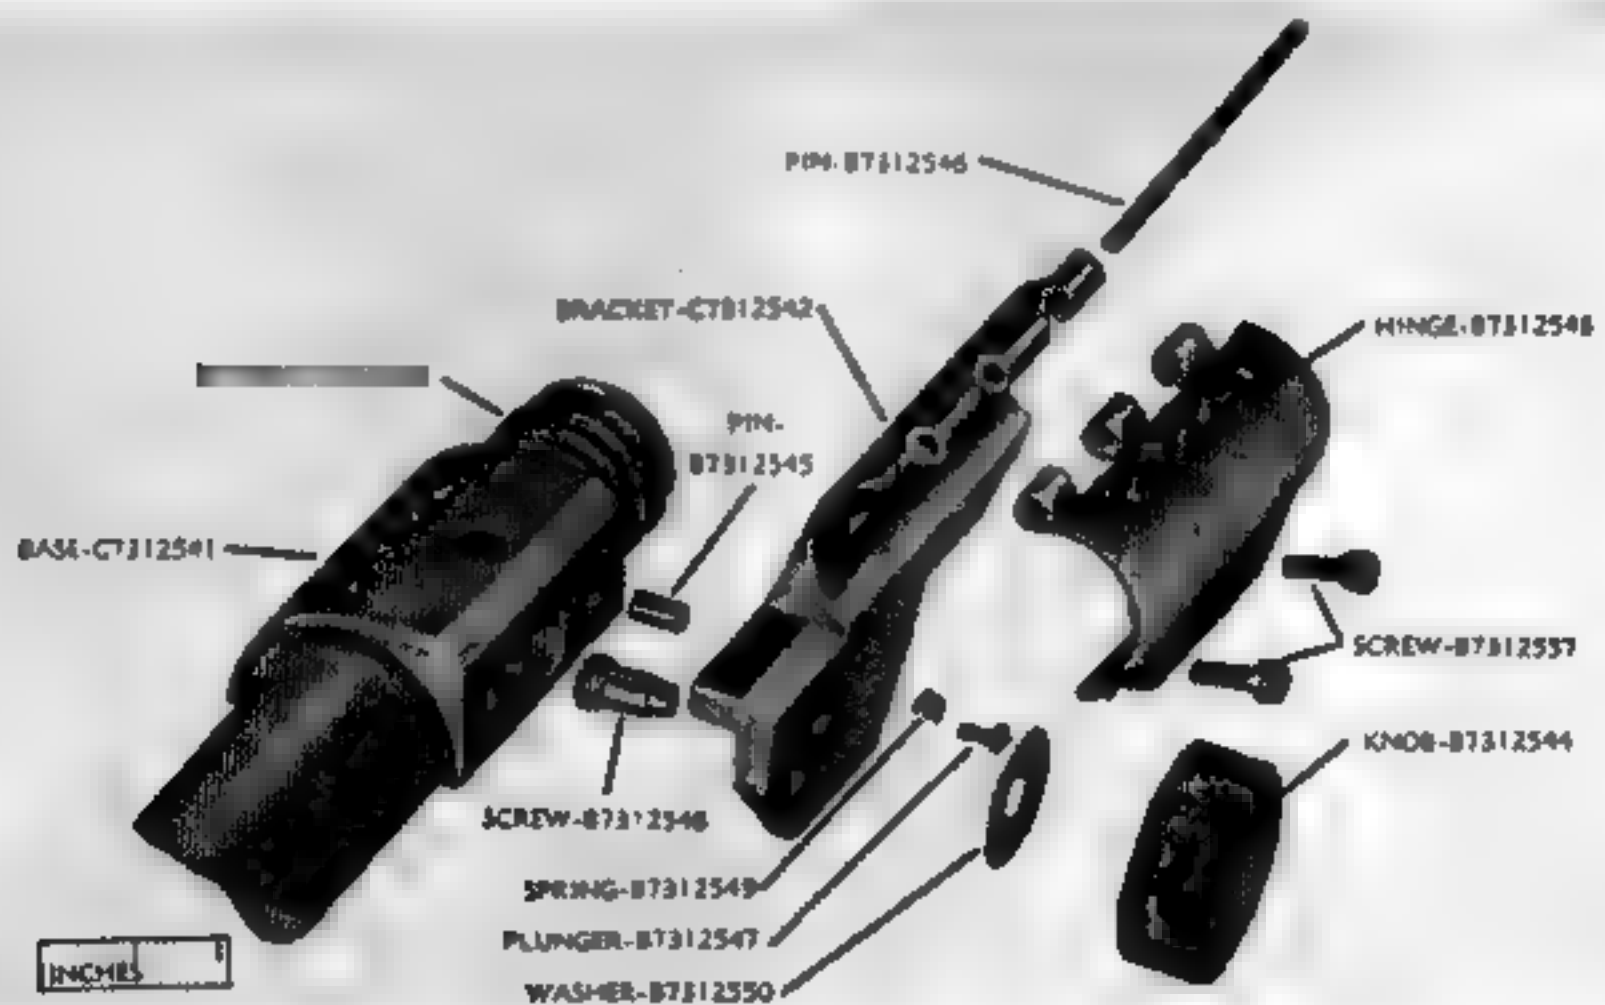

Fig. 131. Barrel with fixed base and scope mount parts, M1D
55. Telescope mount, M1D only: (Fig 131) inspect base for looseness on barrel, and for burrs. Inspect dowel pin for burrs, wear, and for looseness in base. Inspect knob for looseness on screw and